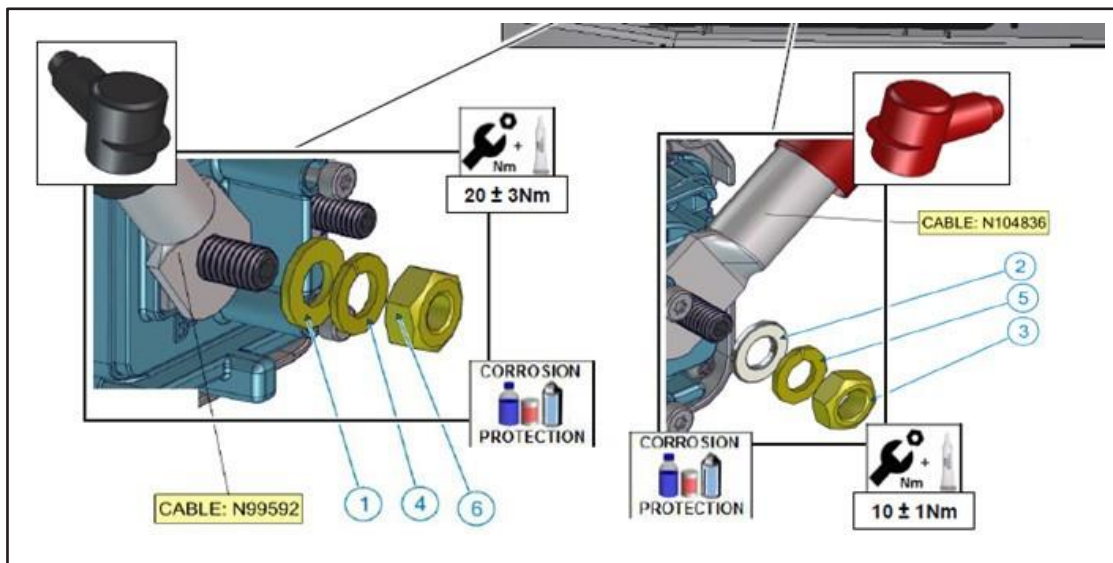

Figure 5 - Applying NCP2 anticorrosive on the Cables.
- 1.8. Retorque the studs with torque values and apply anticorrosive NCP2 on reconnected cables (see figure 5).